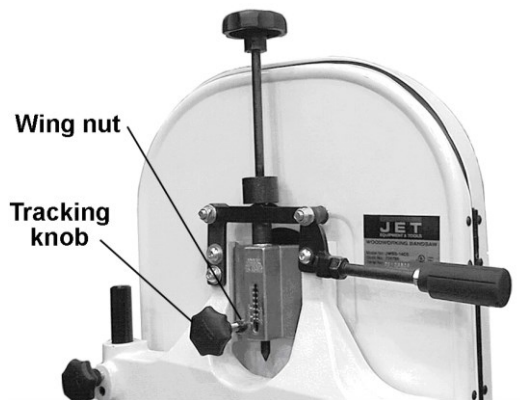

Figure 16
2. Make sure the blade is tensioned with the release lever in the down position (Figure 16).
3. If adjustment is necessary, loosen wing nut (Figure 16), and tighten tracking knob slightly to move blade toward rear of machine. Slightly loosening the tracking knob will cause the blade to track toward the front of the machine.